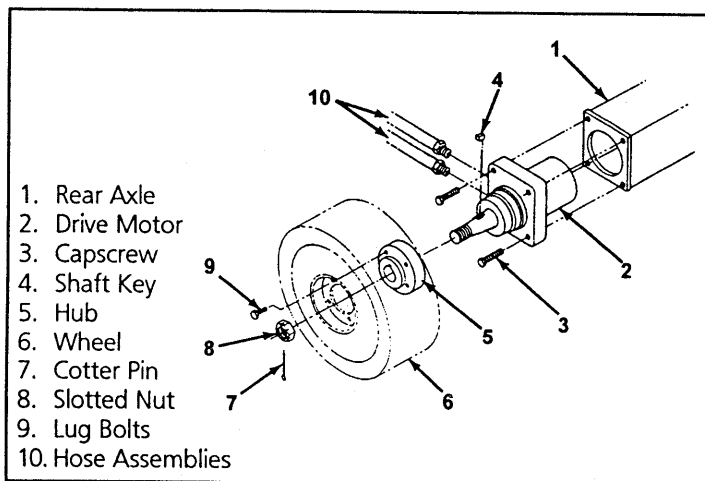

Figure 4-10: Drive Motor Installation
4.9 Hydraulic Drive Motors and Hubs (Figure 4-10)
1. Referring to Figure 4-10, position the drive motor in the axle and secure with capscrews.